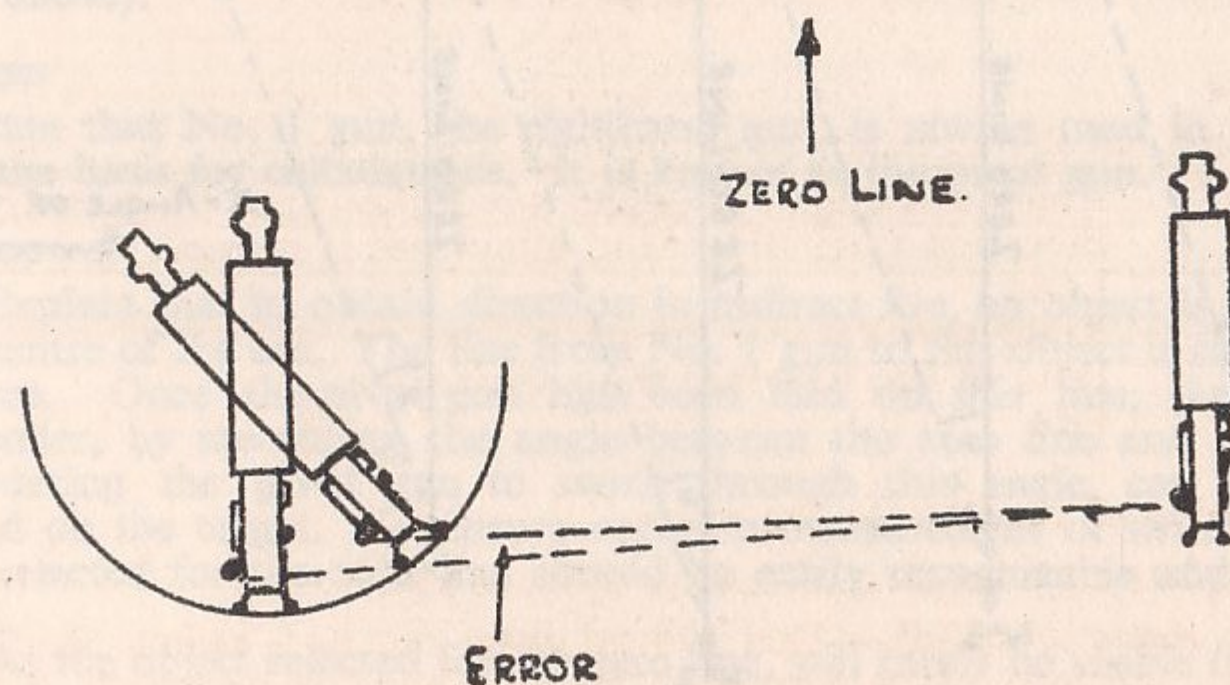

FIG 44
15. State that as the dial sight is not attached to the gun at the point at which the gun pivots, the dial sight moves in an arc when the gun is swung through an angle. To avoid inaccuracies resulting from this, the guns must be mounted approximately in the direction of the zero line. As the angle through which the guns will then swing to bring them parallel on their zero lines will be small in consequence, the movement of the dial sight will not affect accuracy. If, however, the guns had not been mounted in the approximate direction of the zero line, an appreciable error would appear in paralleling (*see* Fig 44 below).